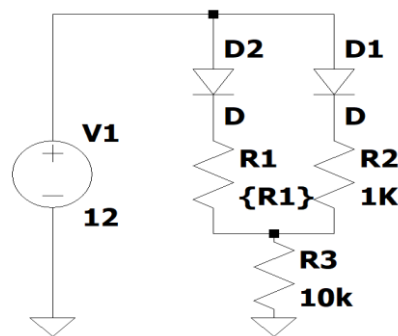

Figure 2.4 Parallel Forward Bias Diodes
1. Connect the Circuit as shown in Figure 2.4.